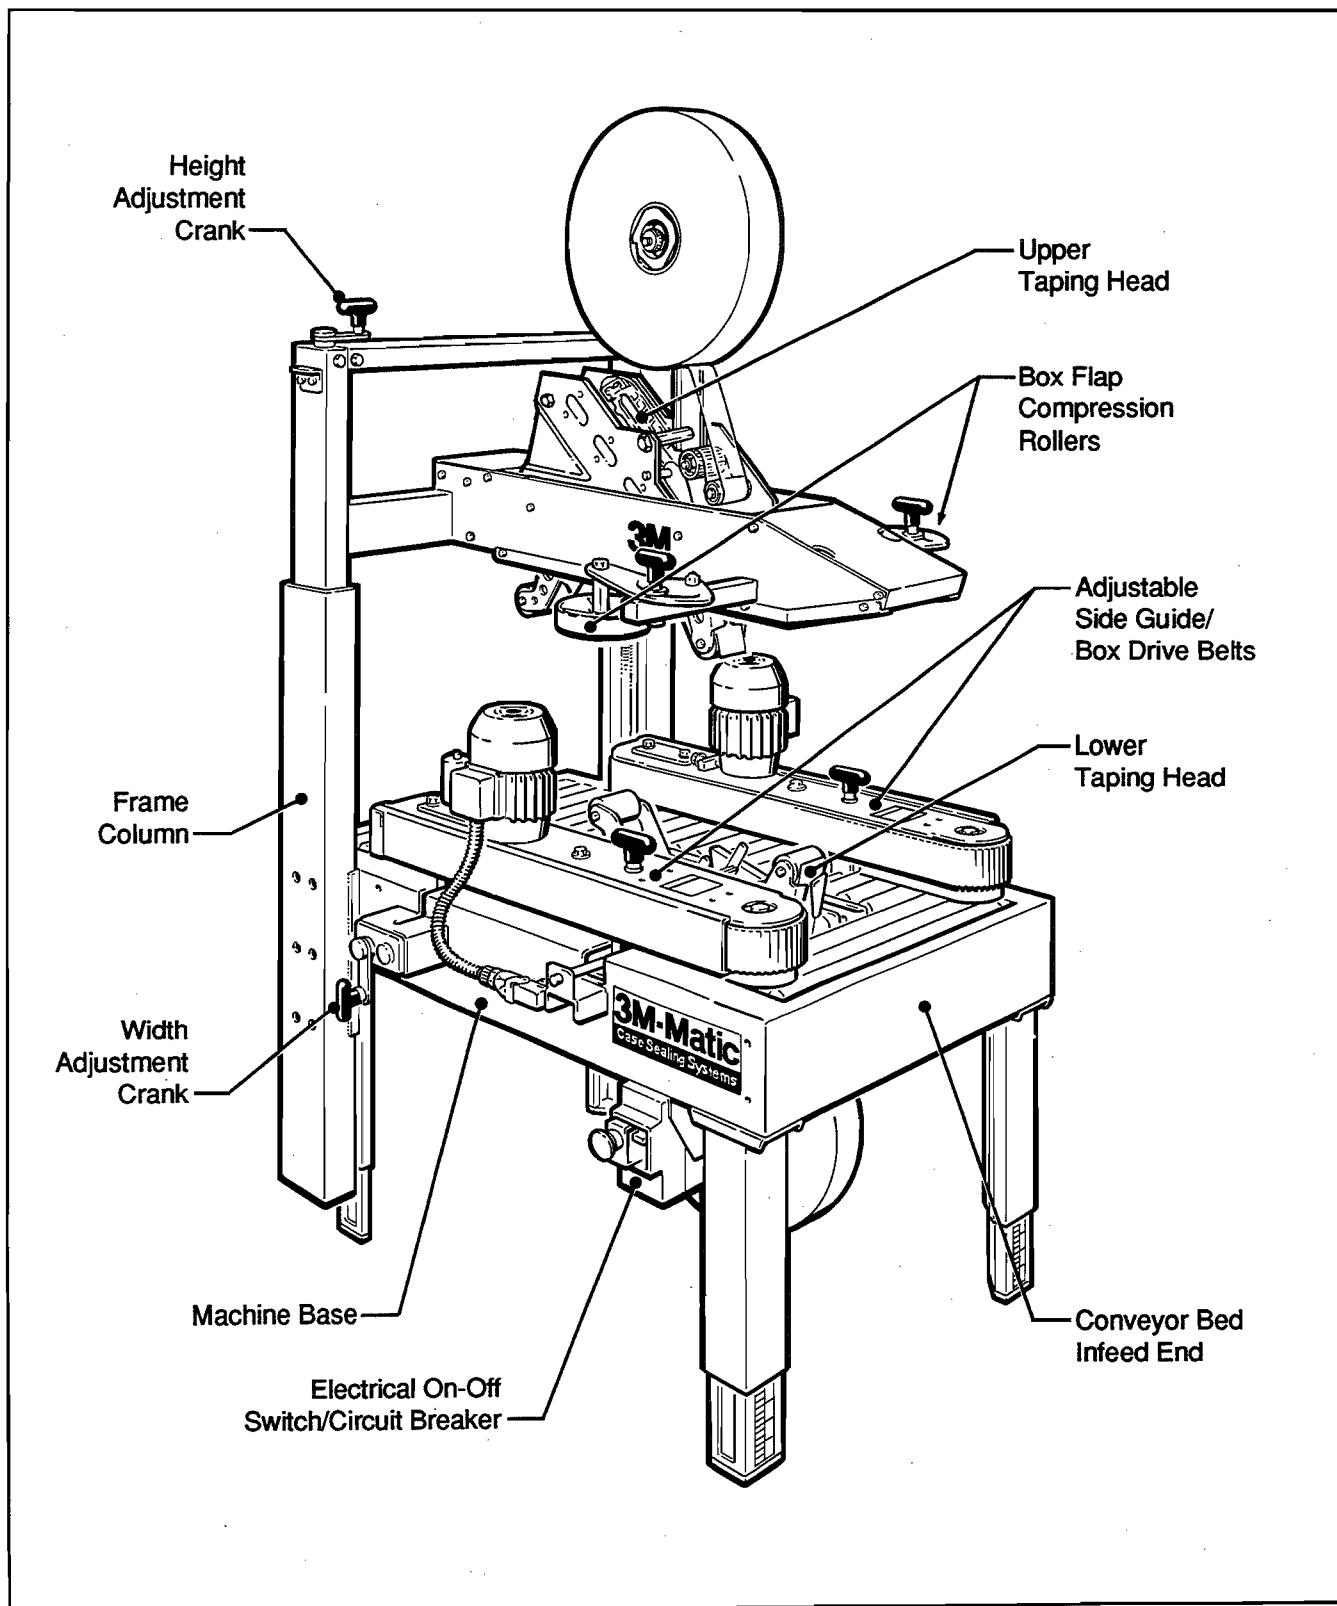
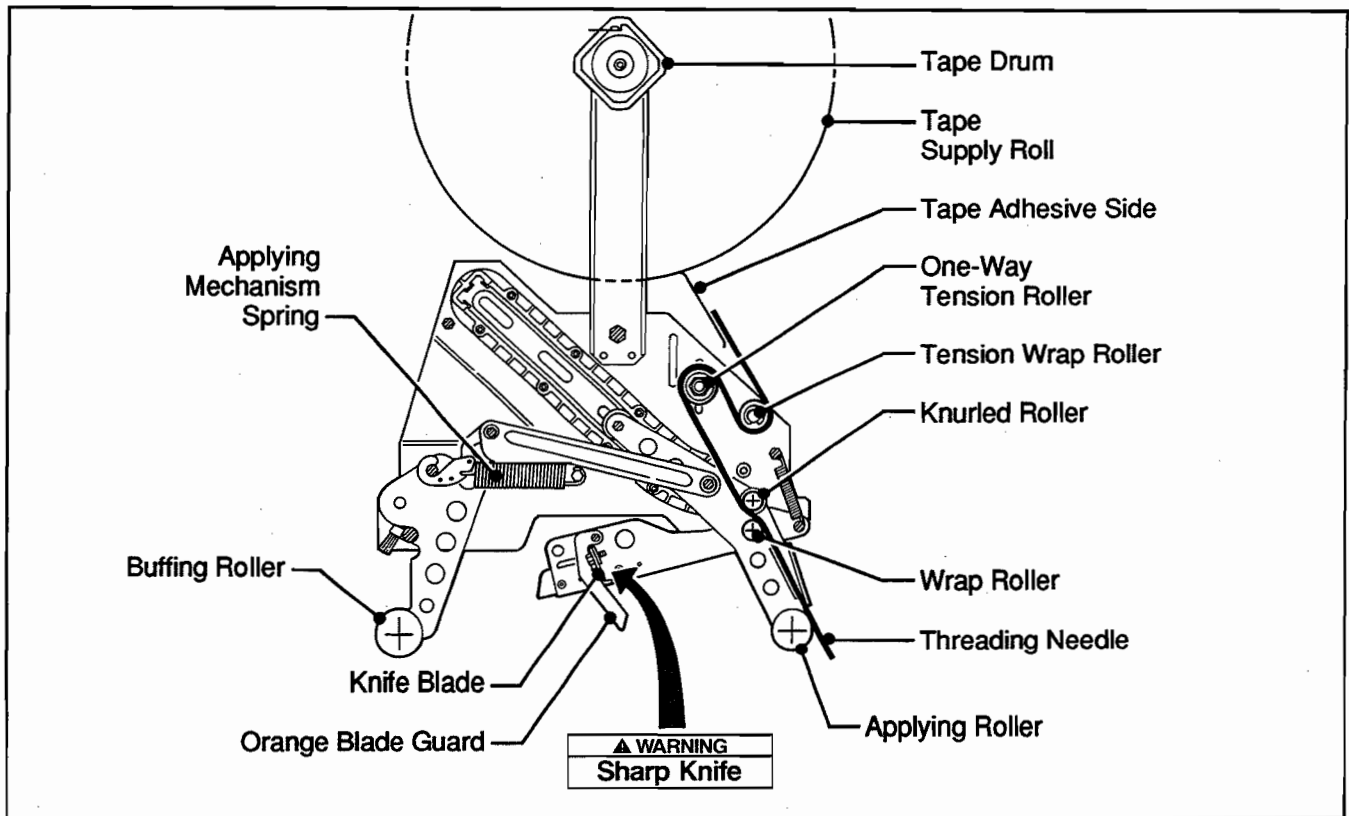

Figure 3-1 – Case Sealer Components
Figure 3-2 – Tape Threading Diagram, Upper Taping Head (Left Side View)
The electrical control box, shown in Figure 3-1, contains the "On-Off" switch with pre-set circuit breaker and can be located on either side of the main conveyor for customer operating convenience. A standard three conductor power cord with plug is provided at the back of the electrical control box for 115 Volt, 60 Hz, 3.6 Amps electrical service. The receptacle providing this service shall be properly grounded. Before the power cord is plugged into 115 Volt, 60 Hz outlet, make sure the red "Off" button is depressed and that all packaging materials and tools are removed from the machine. **Do not plug electrical cord into outlet until ready to run machine.**
Refer to Figure 3-1 to acquaint yourself with the various components of the case sealer and Figures 3-2 and 3-3 for taping head components.
7. Both the upper and lower taping heads utilize extremely sharp knife blades. The blades are located under the orange blade guard which has the "WARNING – SHARP KNIFE" label. Before loading tape, refer to Figure 3-2 and 3-3 and identify the blade location. Keep hands out of these areas except as necessary to service the taping heads.
The box drive belts are turned on and off ("Off" button is red) with the electrical switch on the side of the conveyor bed frame. Refer to Figure 3-1 for location of this switch.
Refer to Figures 3-2 and 3-3 to identify the various components of the taping heads, especially the cut-off blade location.
2. Follow **Steps 1, 2 and 3** below and also refer to Figure 3-2.